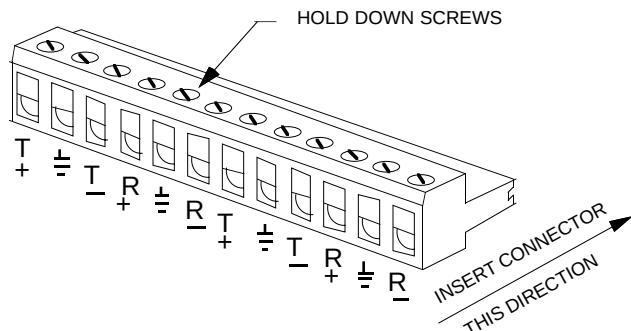

Figure 4 - Typical Mating Connector
Eight 12-pin connectors on the rear panel of the 2083-06 are used for transmitting and receiving codes with Pelco Intercept Domes. Each connector provides two separate RS-422 connections, for cameras that are within the selected camera number range of that group. The transmit (T) and receive (R) signal pins are labeled on each connector. Each connector is supplied with a mating screw terminal connector (Figure 4).